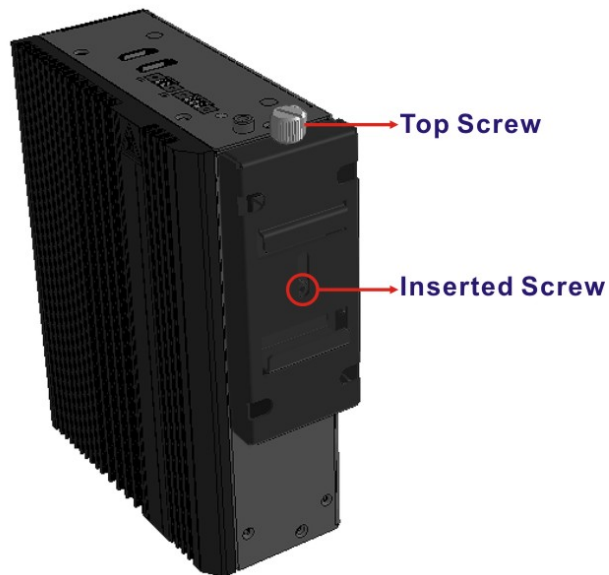

Figure 3-24: Screw Locations
- Step 2:** Make sure the inserted screw in the center of the bracket is at the lowest position of the elongated hole (Figure 3-24).